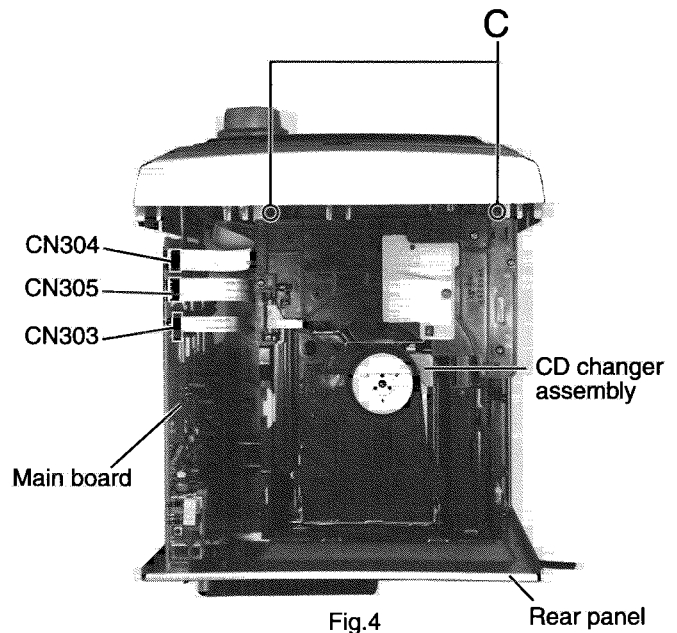

Fig.4
■ Removing the CD Changer Mechanism Assembly(see Fig.4 to 7)